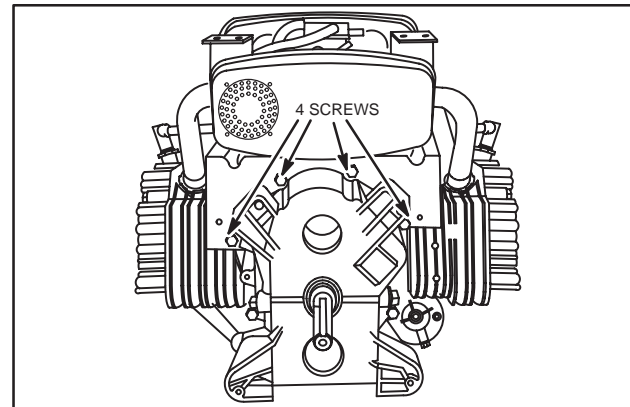

Fig. 10 – Remove Muffler Assembly
5. Remove muffler assembly, Fig. 10.